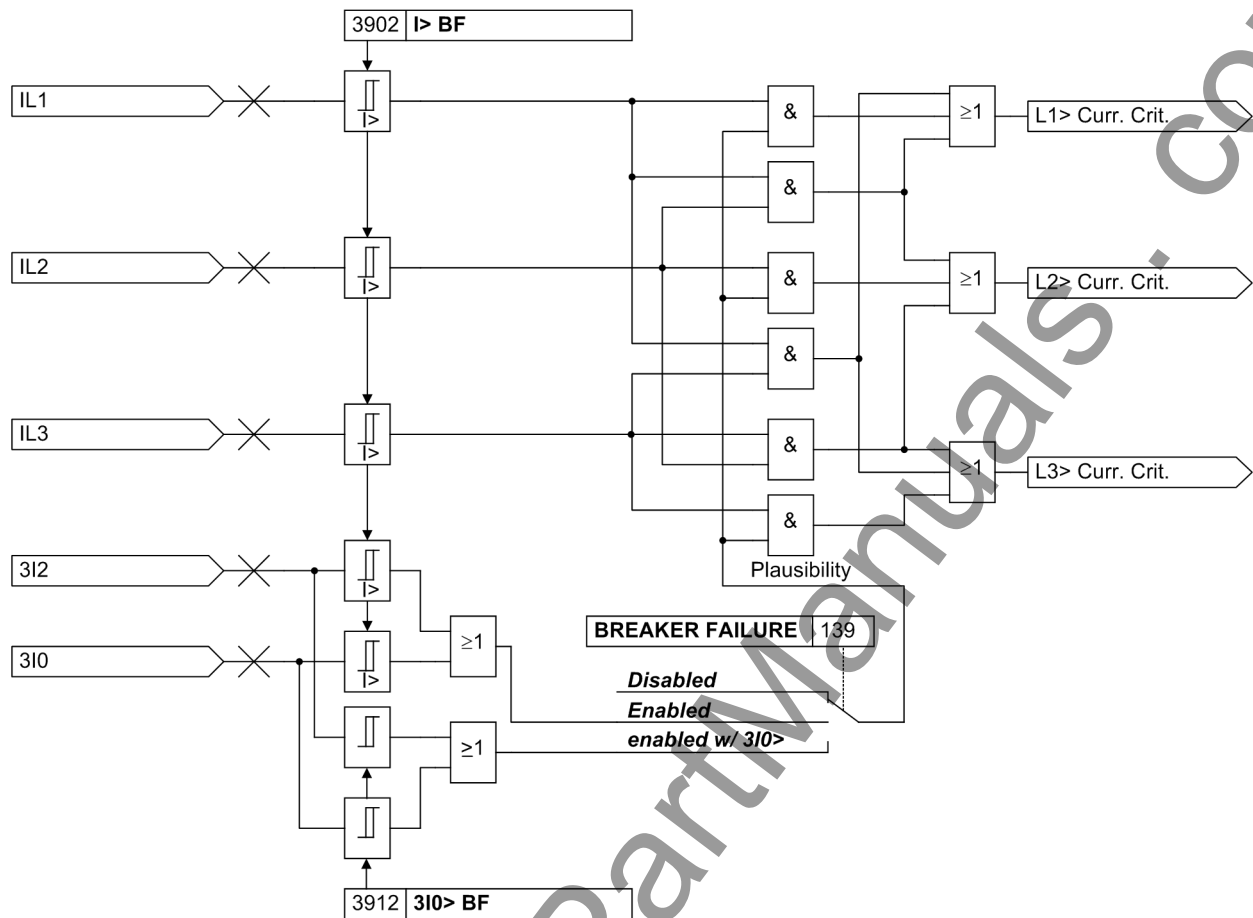
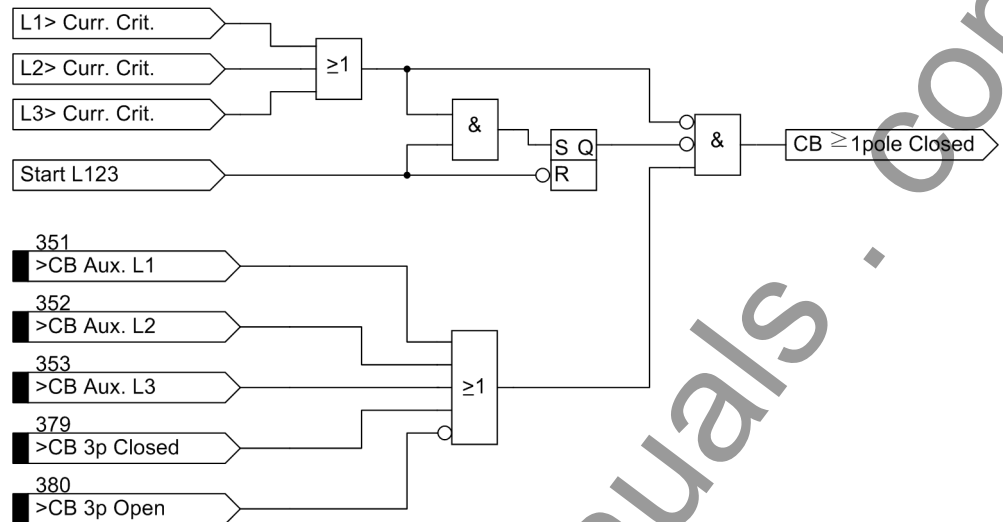
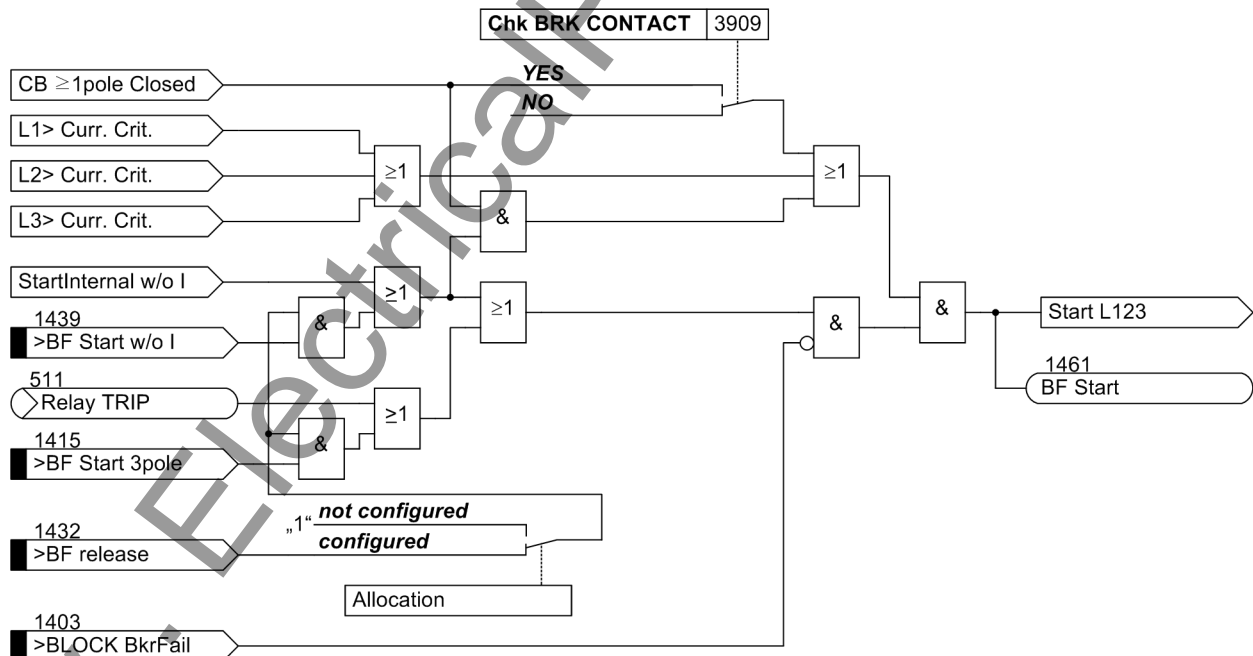
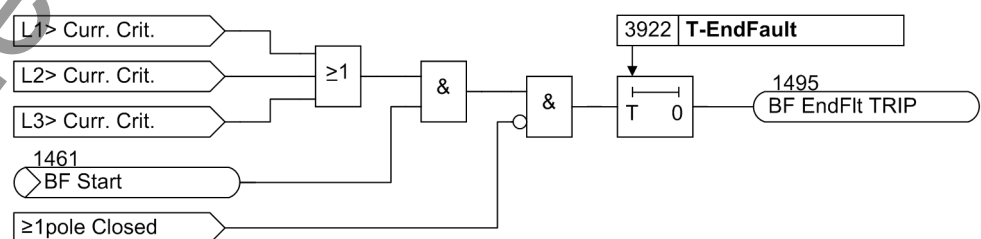

Figure 2-63 Current flow monitoring with plausibility currents $3 \cdot I_0$ and $3 \cdot I_2$
Figure 2-65 Creation of signal "CB ≥ any pole closed"
Figure 2-66 Breaker failure protection with common phase initiation
Figure 2-75 Operation scheme of end fault protection
The currents are monitored and compared with the set limit value. Besides the three phase currents, two further current thresholds are provided in order to allow a plausibility check. If configured correspondingly, a separate threshold value can be used for this plausibility check (see Figure 2-63).
It is possible to disable the auxiliary contact criterion. If you set the parameter switch **Chk BRK CONTACT** (Figure 2-66 top) to **NO**, the breaker failure protection can only be started when current flow is detected. The position of the auxiliary contacts is then not evaluated even if the auxiliary contacts are connected to the device.
On the other hand, current flow is not a reliable criterion for proper operation of the circuit breaker for faults which do not cause detectable current flow (e.g. Buchholz protection). Information regarding the position of the circuit breaker auxiliary contacts is required in these cases to check the correct response of the circuit breaker. For this purpose, the binary input „>BF Start w/o I“ No. 1439 is provided (Figure 2-66 left). This input initiates the breaker failure protection even if no current flow is detected.
Figure 2-66 shows the operating principle. When the trip signal appears from any internal or external feeder protection and at least one current flow criterion according to Figure 2-63 is present, the breaker failure protection is initiated and the corresponding delay time(s) is (are) started.
If the current criterion is not fulfilled for any of the phases, the position of the circuit breaker auxiliary contact can be queried as shown in Figure 2-65. If the circuit breaker poles have individual auxiliary contacts, the series connection of the three normally closed (NC) auxiliary contacts is used. After a three-pole trip command the circuit breaker has only operated correctly if current no longer flows over the poles or if all three NC auxiliary contacts are closed.
Figure 2-65 illustrates how the internal signal „CB pole ≥L1 closed“ is created (see Figure 2-66 left) if at least one circuit breaker pole is closed.
The end fault is recognized when the current continues flowing although the circuit breaker auxiliary contacts indicate that the breaker is open. An additional criterion is the presence of any breaker failure protection initiate signal. Figure 2-75 illustrates the functional principle. If the breaker failure protection is initiated and current flow is detected (current criteria „L*> current criterion“ according to Figure 2-63), but no circuit breaker pole is closed (auxiliary contact criterion „any pole closed“), then the timer **T-EndFault** is started. At the end of this time an intertrip signal is transmitted to the opposite end(s) of the protected object.
Additionally, the current criteria (from Figure 2-63) are processed. Pole discrepancy can only be detected when current is not flowing through all three poles, i.e. through only one or two poles. When current is flowing through all three poles, all three poles must be closed even if the breaker auxiliary contacts indicate a different status.